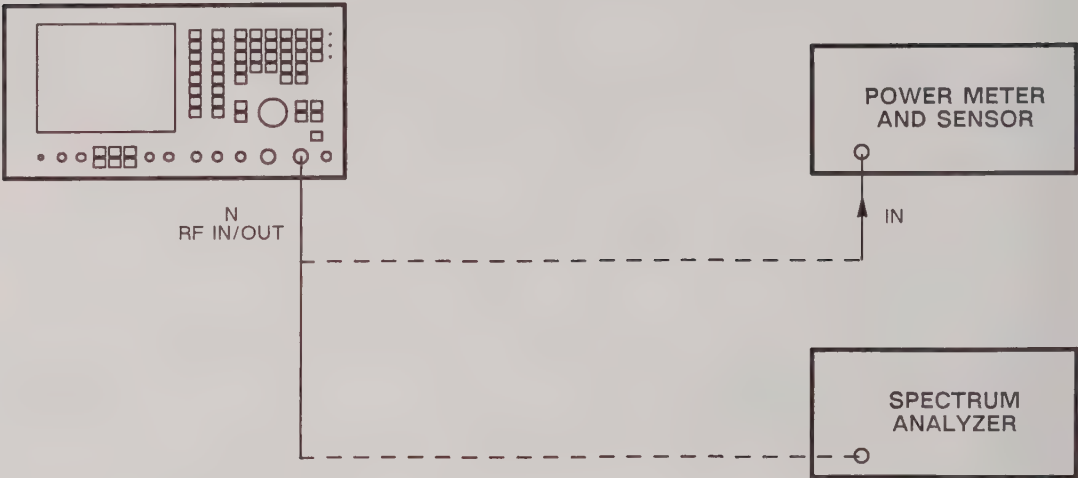

Fig. 6-21 Test equipment connections for RF generator output level
- (1) Connect the power meter through its 6920 sensor to the RF IN/OUT N socket. See Fig. 6-21.
- (2) On the 2955A, set the MODE to RECEIVER TEST, GEN FREQ to 300 MHz, LEVEL to -20.5 dBm, INC to 1 dB, MOD to OFF and RF IN/OUT socket to N.
- (3) On the power meter, check that the reading is -20.5 dBm ± 2 dB.